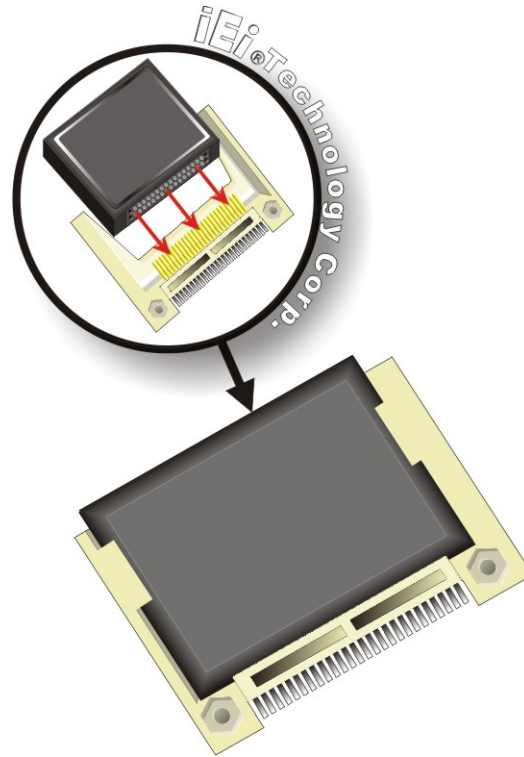

Figure 4-2: CF Card Installation
- Step 3:** **Insert the CF card.** Gently insert the CF card into the socket making sure the socket pins are properly inserted into the socket. See **Figure 4-2**.